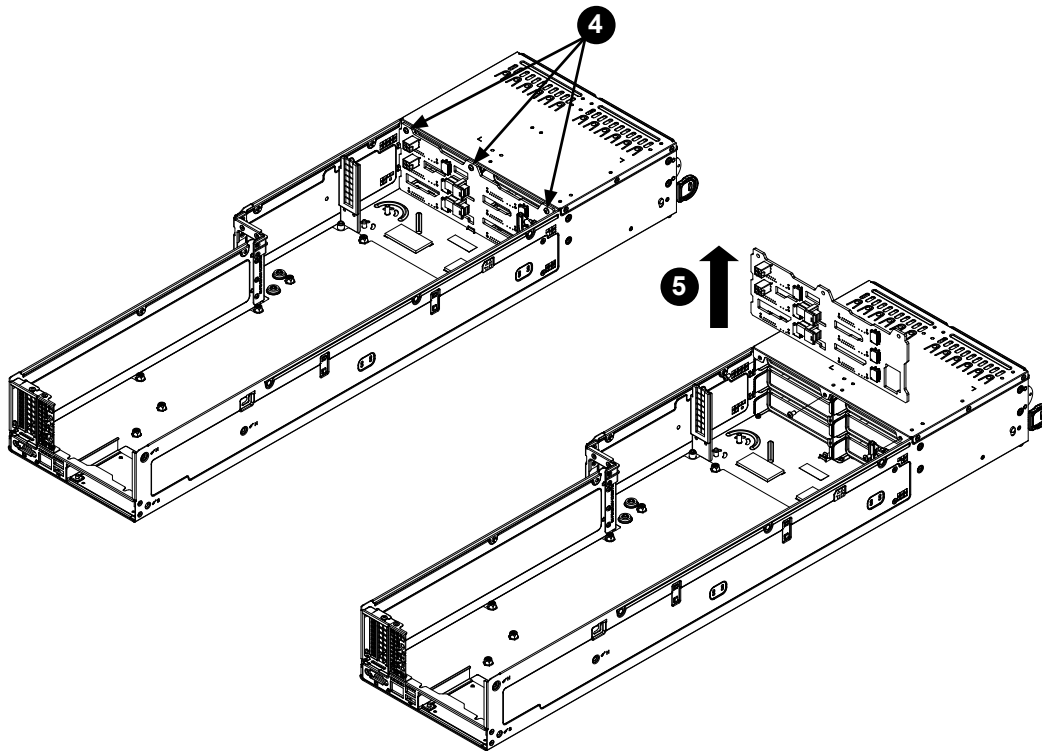

Figure 3-10: Removing the Backplane from the Node Chassis
4. Remove the three screws securing the backplane to the node (Figure 3-10).